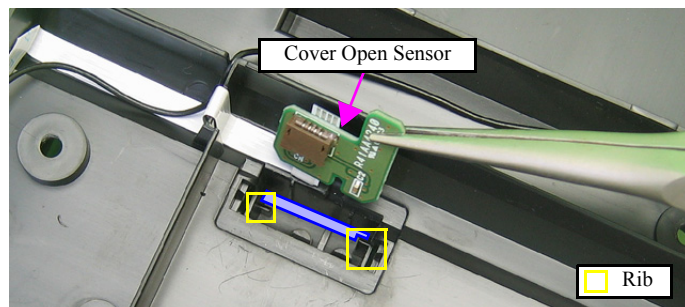

Figure 4-127. Attaching the Cover Open Sensor
- When attaching the Cover Open Sensor, insert it into the space inside the ribs (x2) of the Scanner Lower Housing as shown in Fig. 4-127.